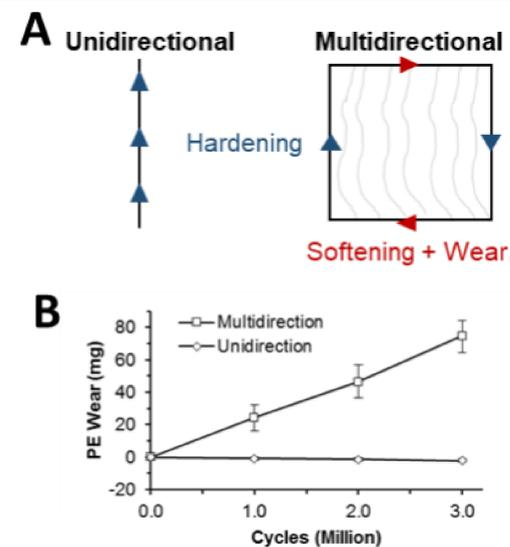

Figure 1: A) Schematic of multidirectional loading and B) Polyethylene wear
- Multidirectional loading causes strain softening and clinically relevant wear rates in polyethylene (Fig. 1).2